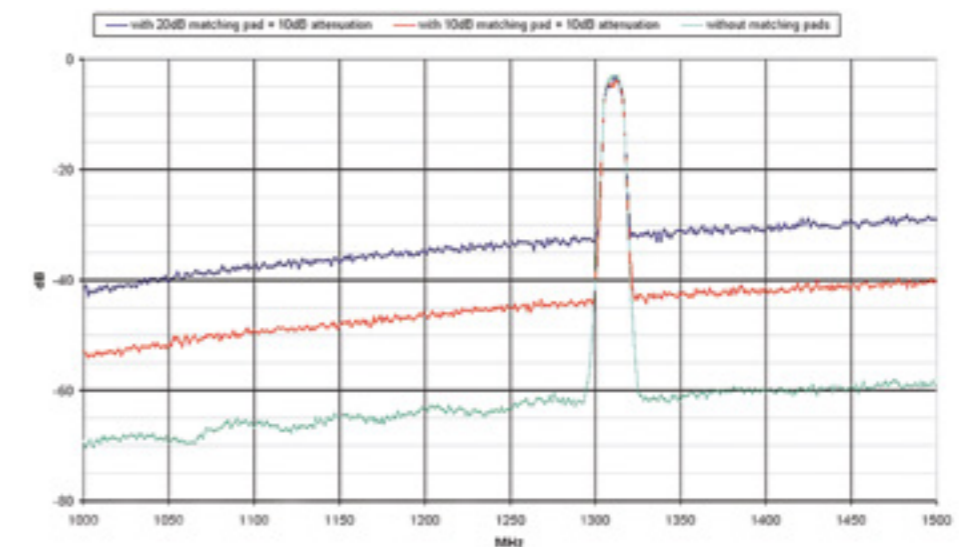

Figure 5. 1307 MHz band-pass filter measurement
- Reflections are less of a factor for absorptive filters, which can be treated differently. Figure 5 shows the performance of a custom built bandpass filter, which was specifically designed to be absorptive in the stop-bands. This means that external attenuation is largely unnecessary and can be dispensed with to increase the dynamic measurement range. In each of the traces shown, the stop-band response displayed is dictated by the analyser noise-floor.